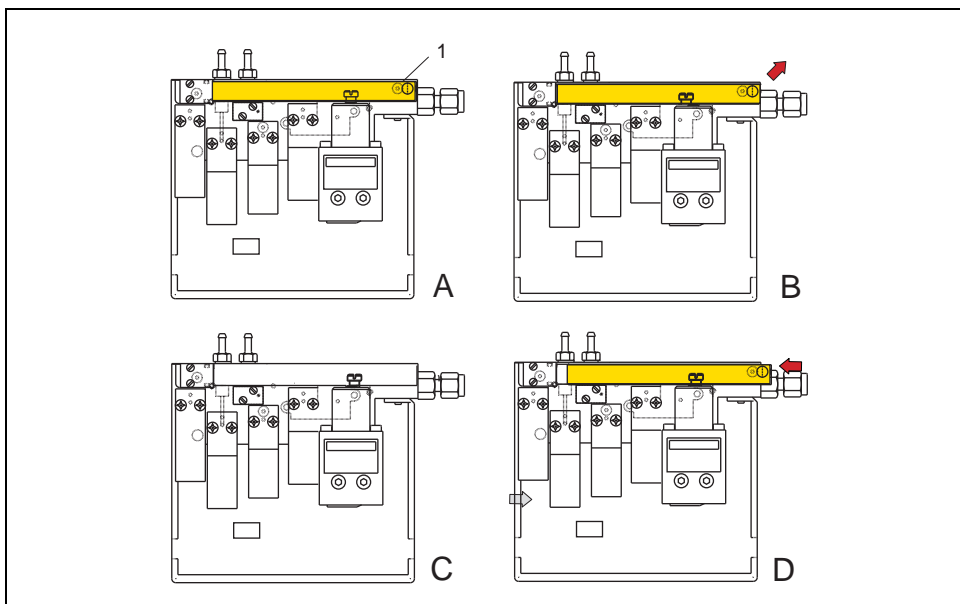

Figure 15-8. Filter Replacing
7. Referring to Figure 15-8, replace the filter operating as follows: